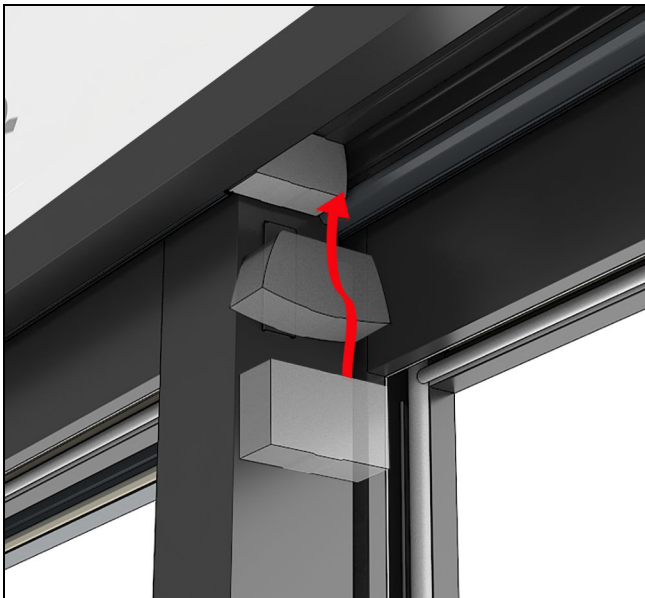

Figure 179 Exterior
1. With all the panels closed, squeeze and insert a head jamb gasket adhesive side up into the head jamb track. Position the gasket flush with the panel(s). See Figure 179.